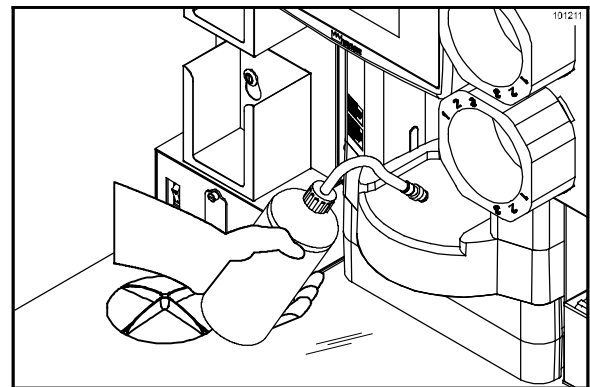

Figure 52
20. Using the squeeze bottle filled with cleaning solution, flush the dispensing area. (See Figure 52.)